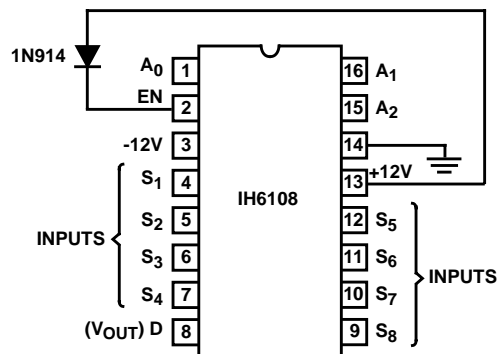

FIGURE 6. IH6108 CONNECTION DIAGRAM FOR LESS THAN $\pm 15V$ SUPPLY OPERATION
Caution must be taken to ensure that the enable (EN) voltage is at least 0.7V below V_+ at all times. If this is not done, the Address input strobing levels will not function properly. This may be achieved quite simply by connecting EN (pin 2) to V_+ (pin 13) via a silicon diode as shown in Figure 6. When using this type of configuration, a further requirement must be met: the strobe levels of A0 and A1 must be within 2.5V of the EN voltage in order to define a binary “1” state. For the case shown in Figure 6 the EN voltage is 11.3V which means that logic high at A0 and A1 is +8.8V (logic low continues to be 0.8V). In this configuration the IH6108 cannot be driven by TTL (+5V) or CMOS (+5V) logic. It can be driven by TTL open collector logic or CMOS logic with +12V supplies.